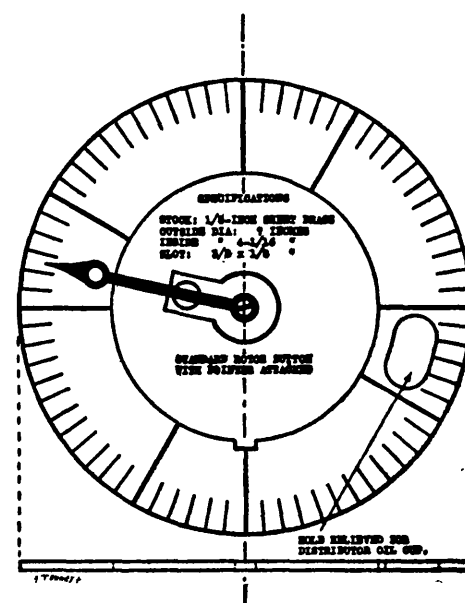

Fig. 4
E.—Specifications for 60-120 degree and 45 degree Templets. 60-120 degree: (Fig. 4) This templet is made of $\frac{1}{8}$ inch sheet brass, outside diameter, 7 inches; inside diameter $4 \frac{1}{16}$ inches with a slot $\frac{3}{8} \times \frac{1}{8}$ inches cut in inside circle for locating first firing position. A slot is also cut that templet may fit over distributor oil cup. The degree marks may be spaced on a lathe, after chucking blank disc, use teeth on large cone gear as a dividing head. The marks are cut by moving a sharp tool, accurately centered in tool post, across face of disk using the hand cross feed. A standard rotor button is used for mounting pointer, first removing brush and brush spring.